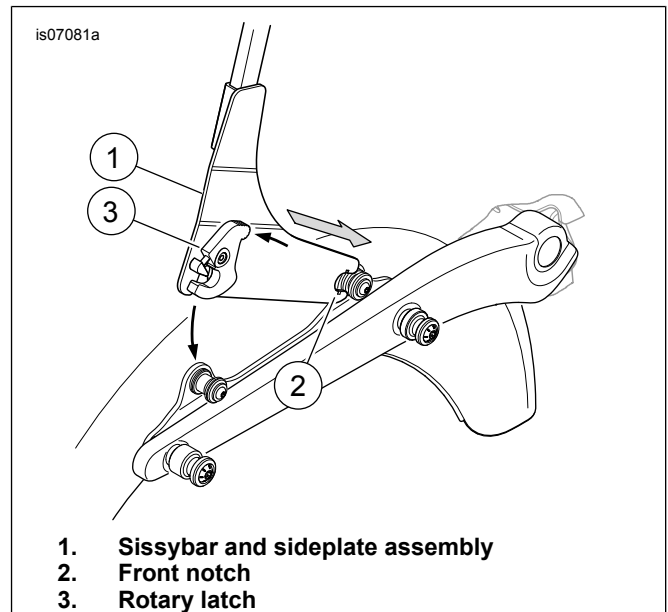
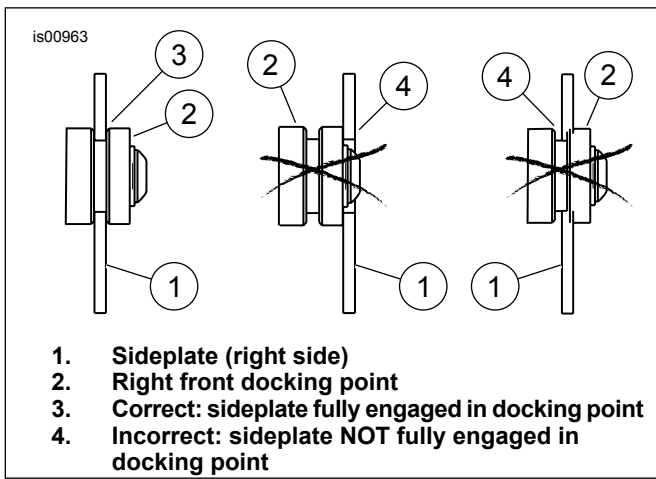
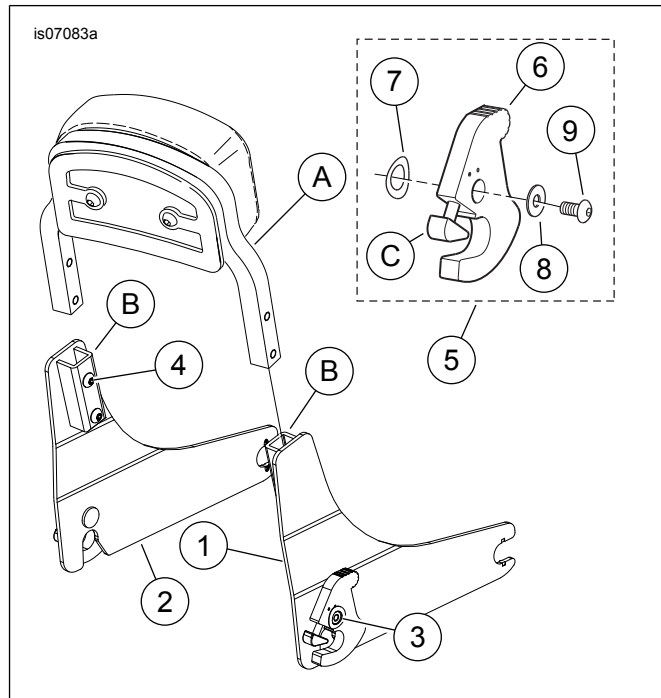

Figure 1. Installing Front Sideplate Notch to Docking Point
Figure 2. Sideplate Fit to Front Docking Points
Figure 4. Service Parts: H-D Detachables FLD Sideplates
See Figure 4 and Table 1.
1. See Figure 4 and Table 1. Insert the legs of the sissy bar upright (A) all the way into the channels (B) of the sideplates (1 and 2) as shown.
2. Apply a few drops of Loctite 262 - Red to the threads of the button head screws (4). Thread the screws into the holes in the sideplate channels, and tighten to 11–14 N·m (96–120 in-lbs).
3. See Figure 1. Place the left-side and right-side front sideplate notches (2) into the front docking points on the fender supports. See Figure 2 for views of correct and incorrect sideplate engagement.
5. Push the rear of the sideplates downward and close the rotary latches by pressing the latch levers as far forward as they will go (see Figure 4). A "CLICK" will be heard when the latches are in place. If the latches do not easily close, do not force. Check the sissy bar alignment again, as described in steps 3 and 4.
6. To remove the sissy bar and sideplate assembly, press the release button (1) on each side and pull the latch levers back. Carefully lift the rear of the sideplates up and pull the sissy bar assembly out of the front docking points.